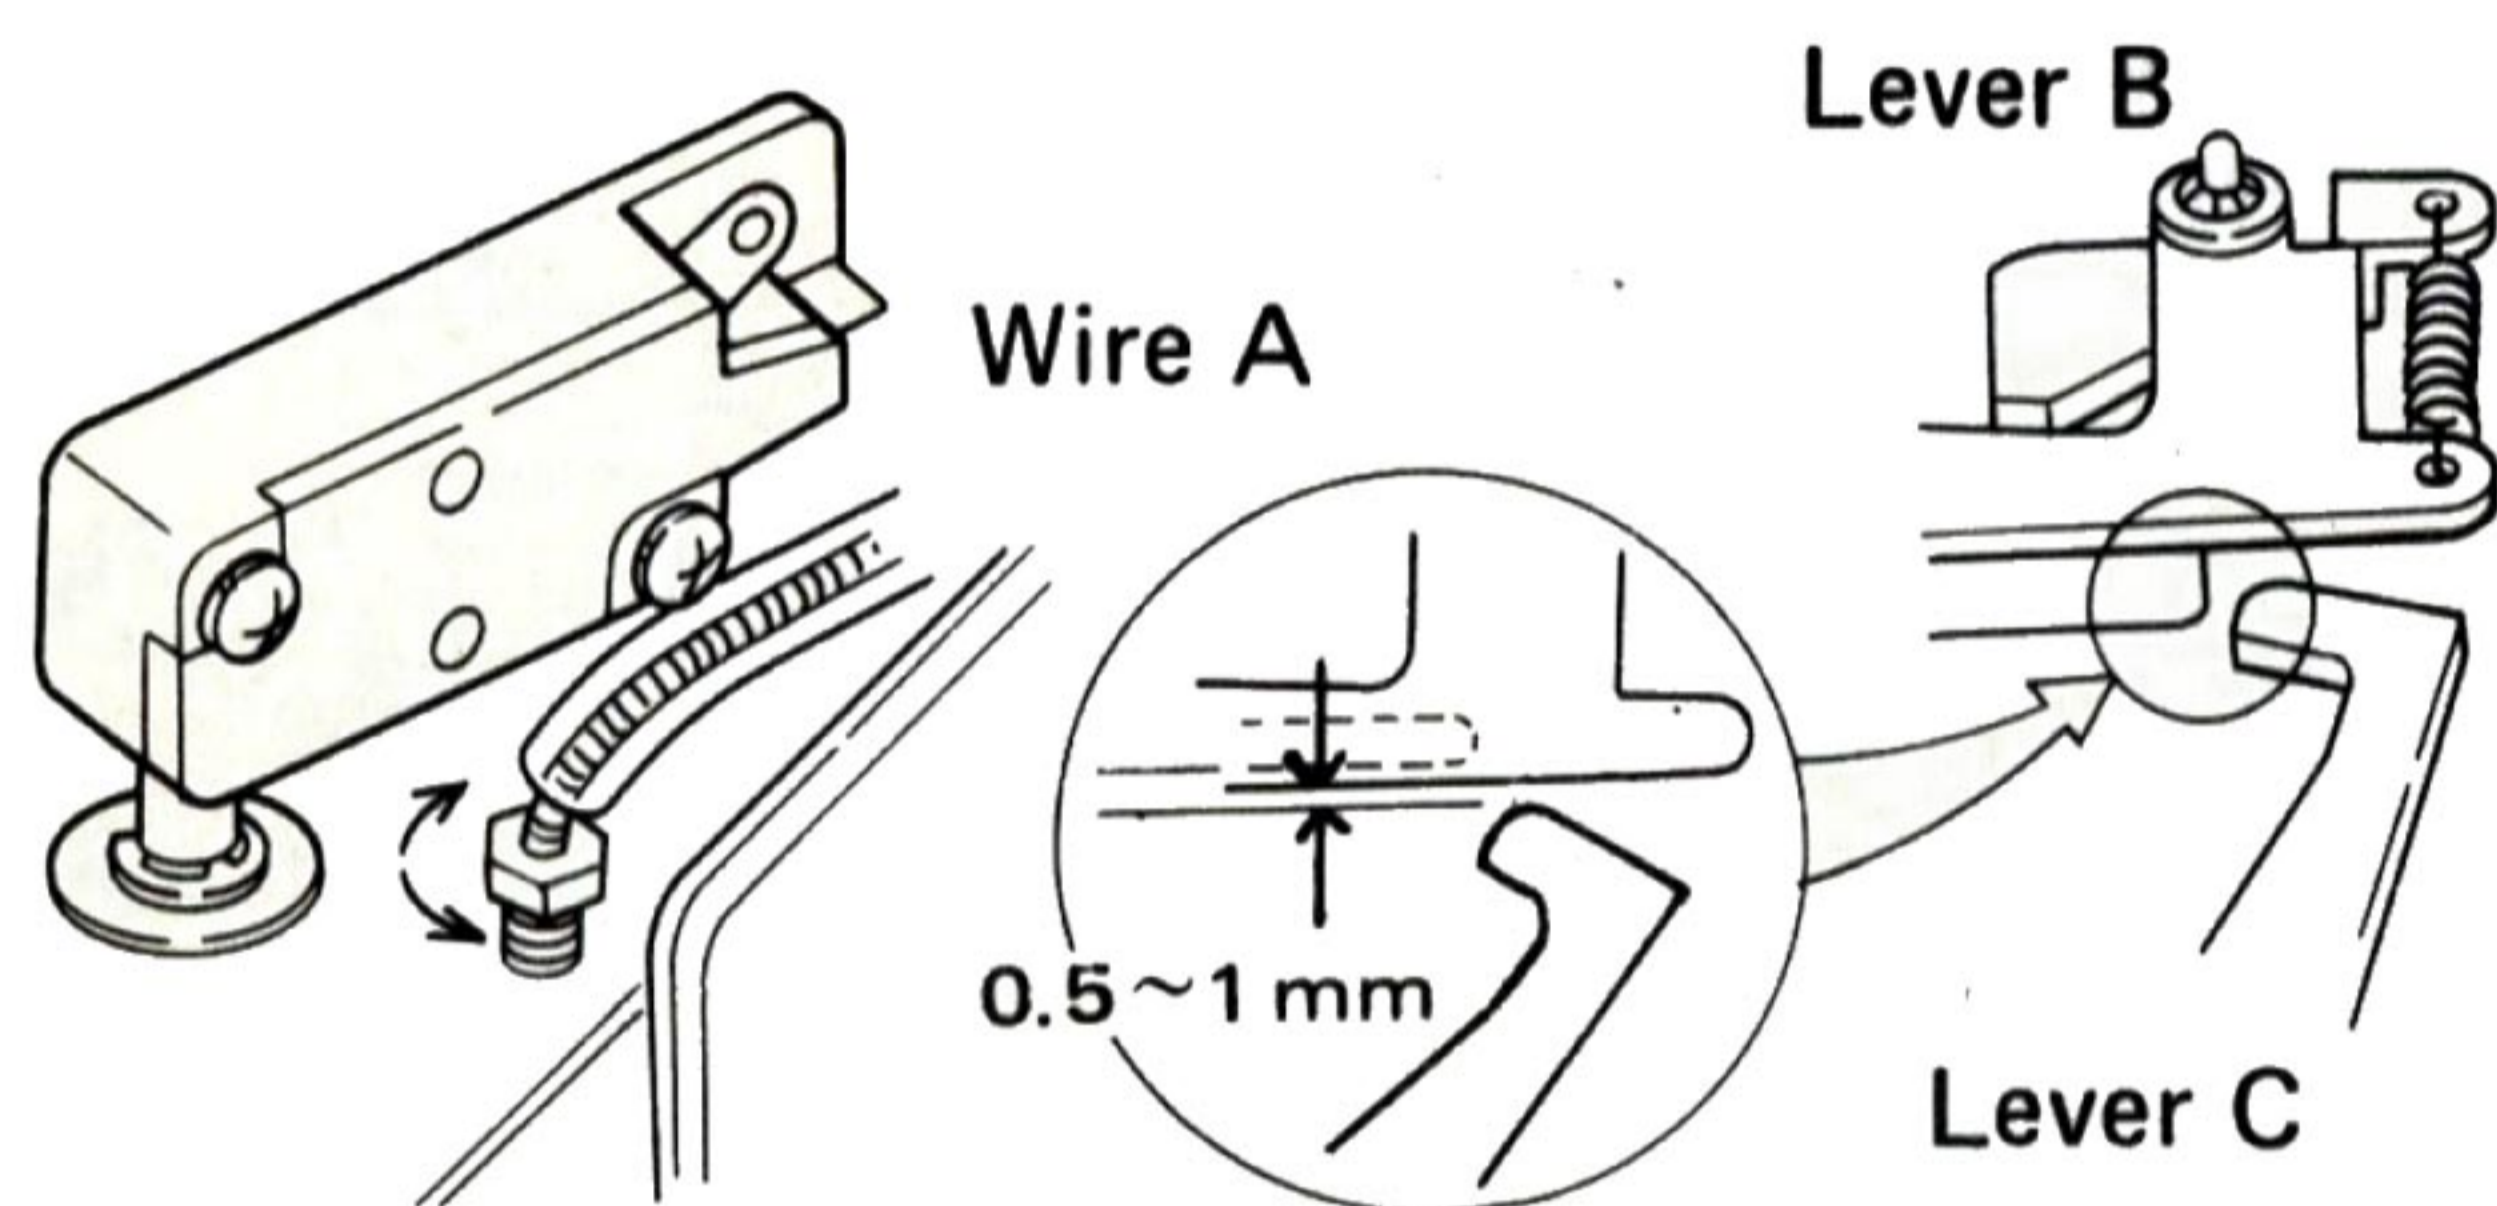

Fig. 27
1. With the unit switched off, turn the adjustment screw in such a way that levers B and C are positioned relatively to each other as shown in Fig. 27.